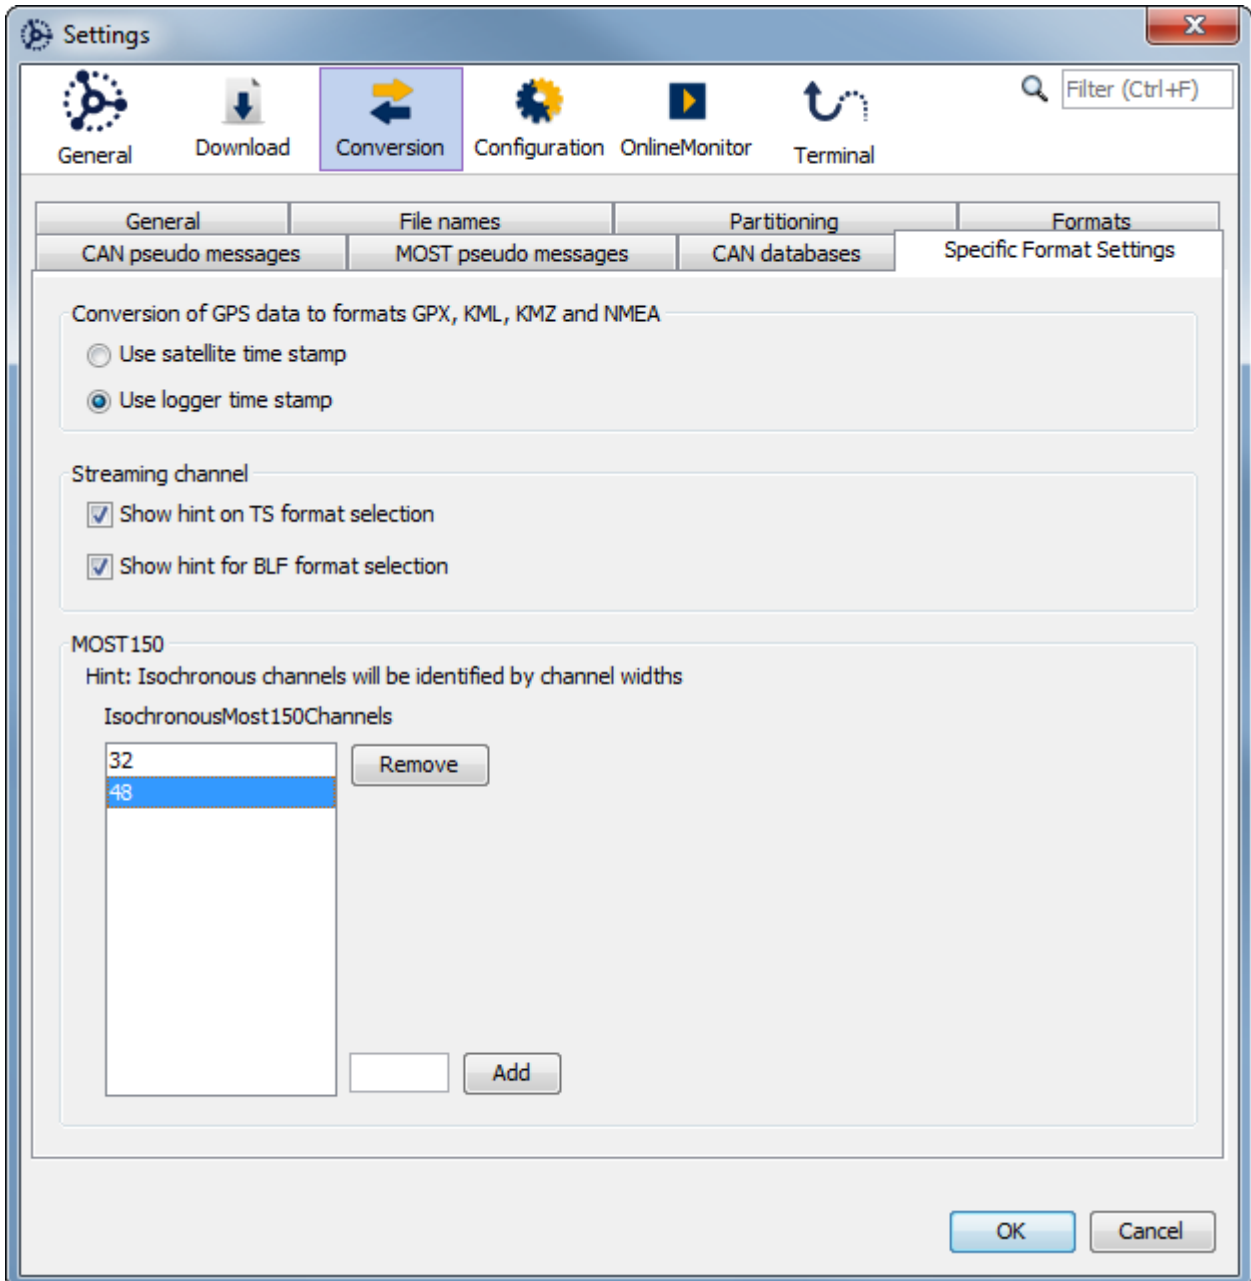

Figure 5: Setting the channel width
- Figure 5: Setting the channel width 12